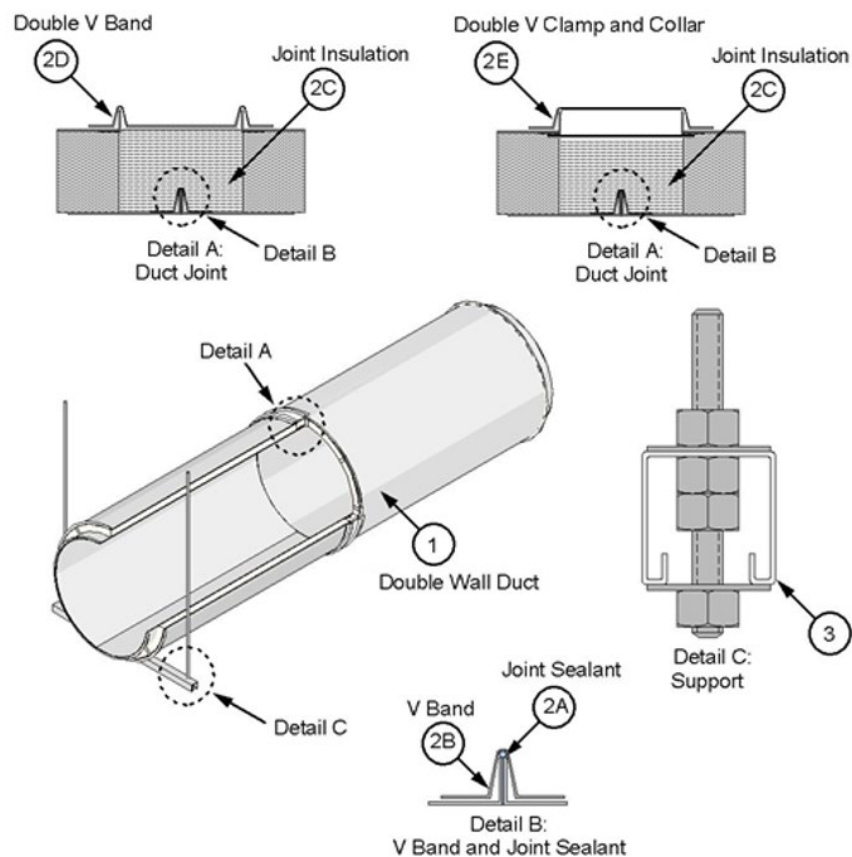

Figure 1. Double Wall Duct and Horizontal Support
- B. **V BAND** – Use the supplied V band (see Figure 1). Place the loose V band, filled with joint sealant (Item 2A), over one of the inner duct flanges. Join to the other inner duct flange with the continuous bead of joint sealant (Item 2A) and rotate slightly to ensure complete coverage of joint sealant (Item 2A) on flanges. Ensure that the flanges are located within the V band and that the V band hardware is not at the bottom side of a horizontal duct. Tap the V band while tightening the integral 1/4-20 hardware to ensure flanges are aligned and pulled together. Tighten to 40-60 in.lb.
- D. **DOUBLE V BAND** – Use the supplied double V band (see Figure 1) for grease duct diameters ≤ 24 in. Place double V band with the grease duct outer shell flanges seated in the V band; tighten integral 1/4-20 hardware to 40-60 in. lbs.
- E. **DOUBLE V CLAMP AND COLLAR** – Use the supplied double V clamp and collar (see Figure 1) for grease duct diameters > 24 in. Use the sheet metal collar to retain the joint insulation; overlap collar ends and fasten together with min. two min. size #6 sheet metal screws. Place double v clamp with the grease duct outer shell flanges seated within the clamp recess; tighten integral 1/4-20 hardware to 40-60 in. lbs.
- A. **HORIZONTAL SUPPORTS** – Support the prefabricated grease duct (Item 1) using min. 12 GA, 1-5/8 in. x 1-5/8 in. Unistrut® channel or 2 in. x 2 in. x 1/4 in. steel angle as the supporting cross-member and two min. 1/2 in. diameter, threaded steel rods connected using Grade 5 hex nuts and 1/2 in. hardened washers (see Figure 1, Detail C). For grease duct diameters > 24 in., use supplied 12 GA